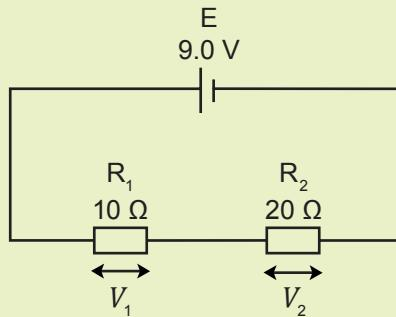

Figure 4.37
- Using the voltage-divider formula, calculate the p.d. across each resistor for the circuit in Figure 4.37.